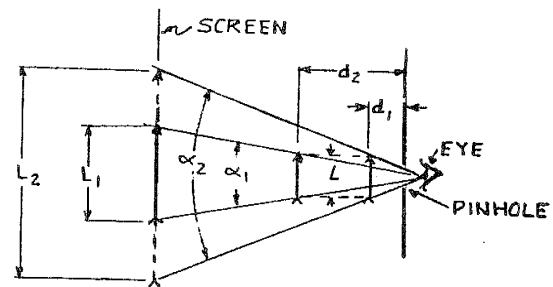

Fig. 1 Visual angle.
Referring to Fig. 1, the visual angle (alpha) subtended by an object of length (L) is placed as shown diagrammatically in this figure. The image of the object appears on the "screen" representing the retina of the eye. If the least distance can be further reduced, as from (d2) to (d1), the visual angle will increase, resulting in an increase in size of the image on the retina.